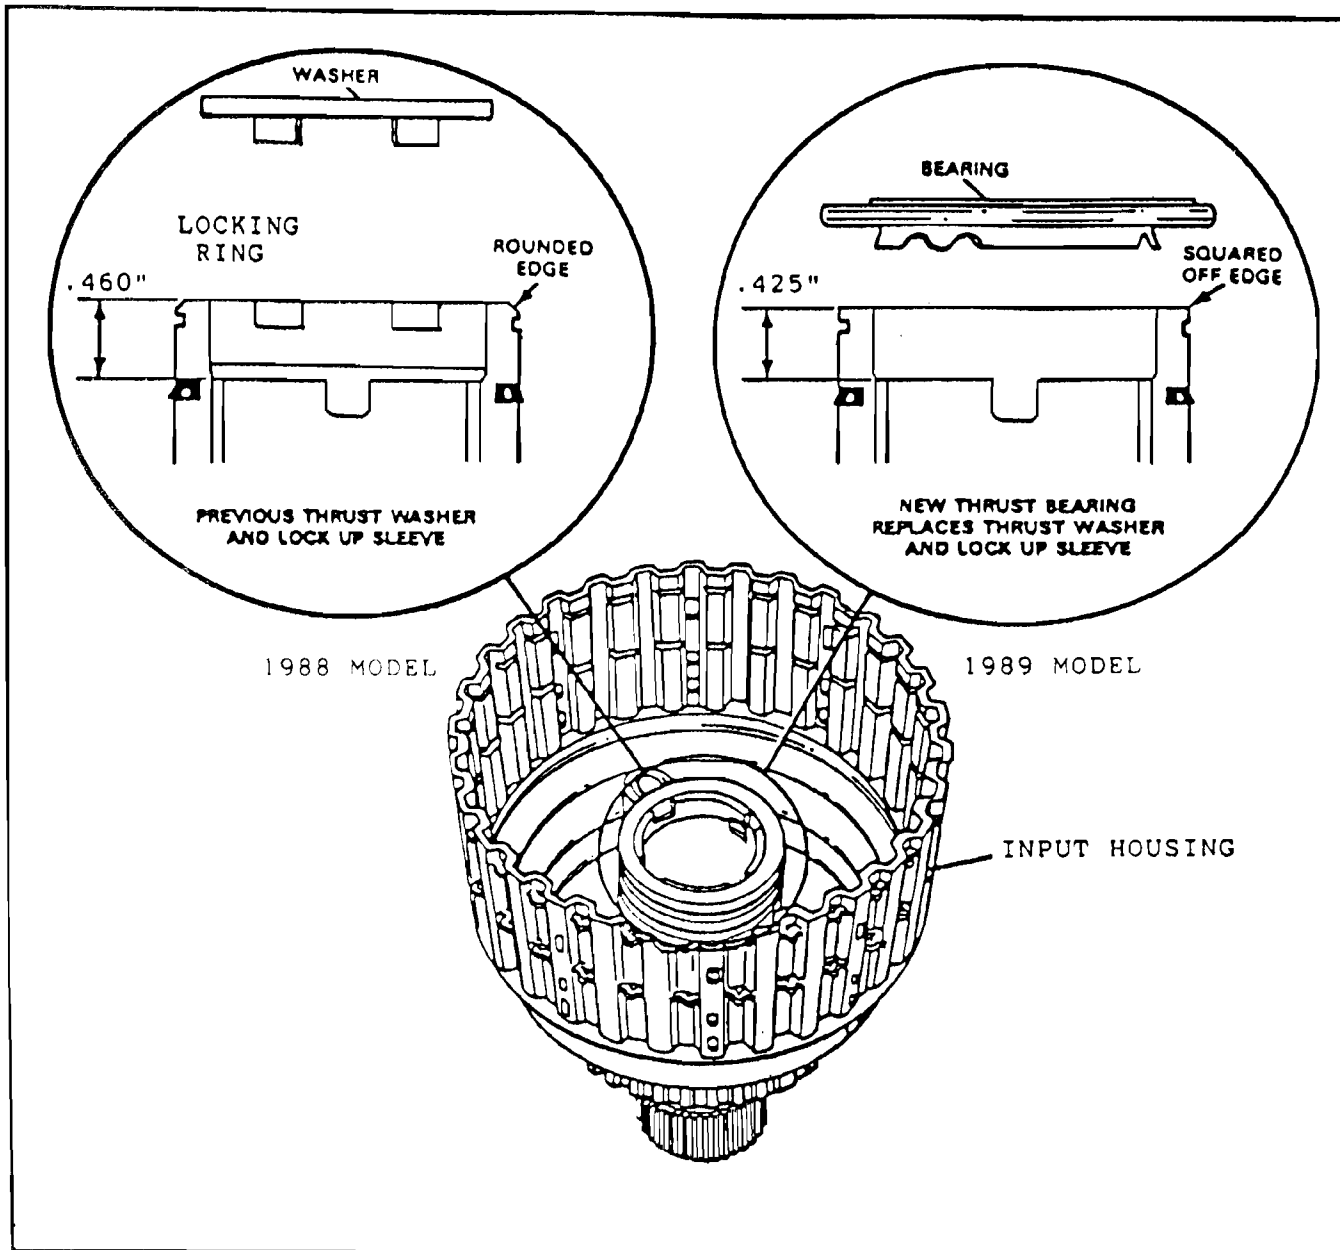

Figure 48
- (1) INPUT HOUSING - Surface on the input housing where the new bearing assembly rides, has been reduced by .035" to accomodate the increased thickness of the new bearing (See Figure 48).
- (2) "TOP HAT" THRUST WASHER - Eliminated (See Figure 48).
- (3) LOCK UP SLEEVE - The lock-up sleeve is no longer needed and has been eliminated (See Figure 48).